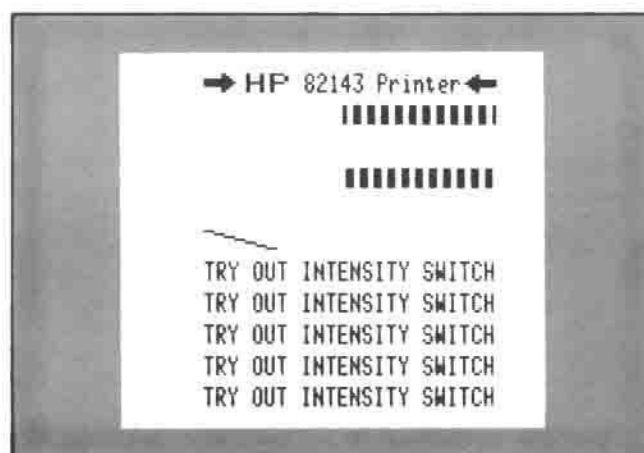

Figure 4-3. Printer Test Output
| <ol style="list-style-type: none"> 4. Observe the printer output. Check for correct formatting of the first line, for missing dots and uneven contrast in the bars in the next two lines, and for extra dots in the fourth, stepped line. Refer to the first four lines of figure 4-3 for the proper output. <ul style="list-style-type: none"> • Improper formatting of the characters or occasional missing dots indicate that the processor (U8) should be replaced at the end of this test. • The presence of extra dots indicates that two print lines may be shorted. Check this at the end of this test using table 4-9. • Poor print quality indicates that the printer mechanism or print-head circuit is faulty. Check the mechanism and circuit at the end of this test using table 4-9. (Paper quality also affects print quality.) | <p>CHECK OUTPUT</p> |
11. Examine the printer output produced by the printer test. Check for missing dots and improper alignment. See figure 4-3 for the proper output.